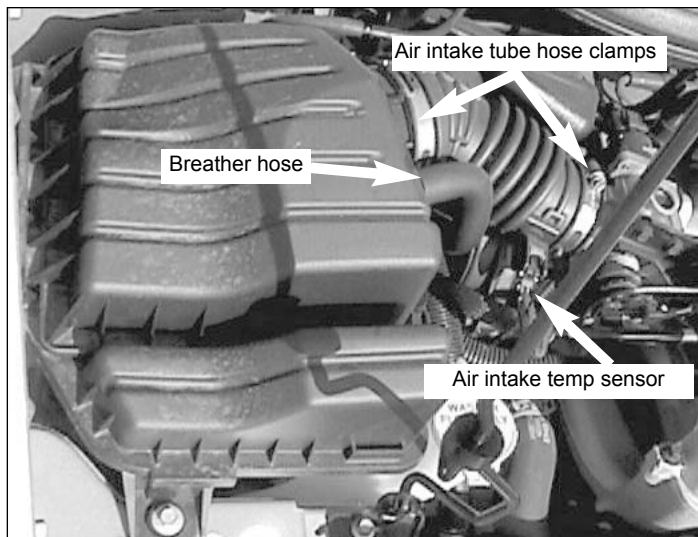

Fig. 1
1. Loosen the hose clamp that connects the air intake tube to the airbox lid and the hose clamp that connects the air intake tube to the throttle body. (Fig. 1)
2. Carefully disconnect the electrical connector from the air intake temperature sensor on the air intake tube. (Fig. 1)
3. Carefully disconnect the air intake tube from the airbox lid and the throttle body and remove the tube from the vehicle. (Fig. 1)
4. Carefully disconnect the breather hose from the airbox lid. (Fig. 1)